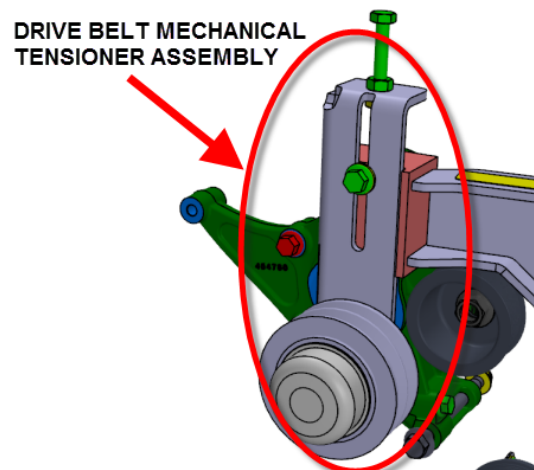

FIGURE 2
5. Remove the drive belt mechanical tensioner assembly (**FIGURE 2**).